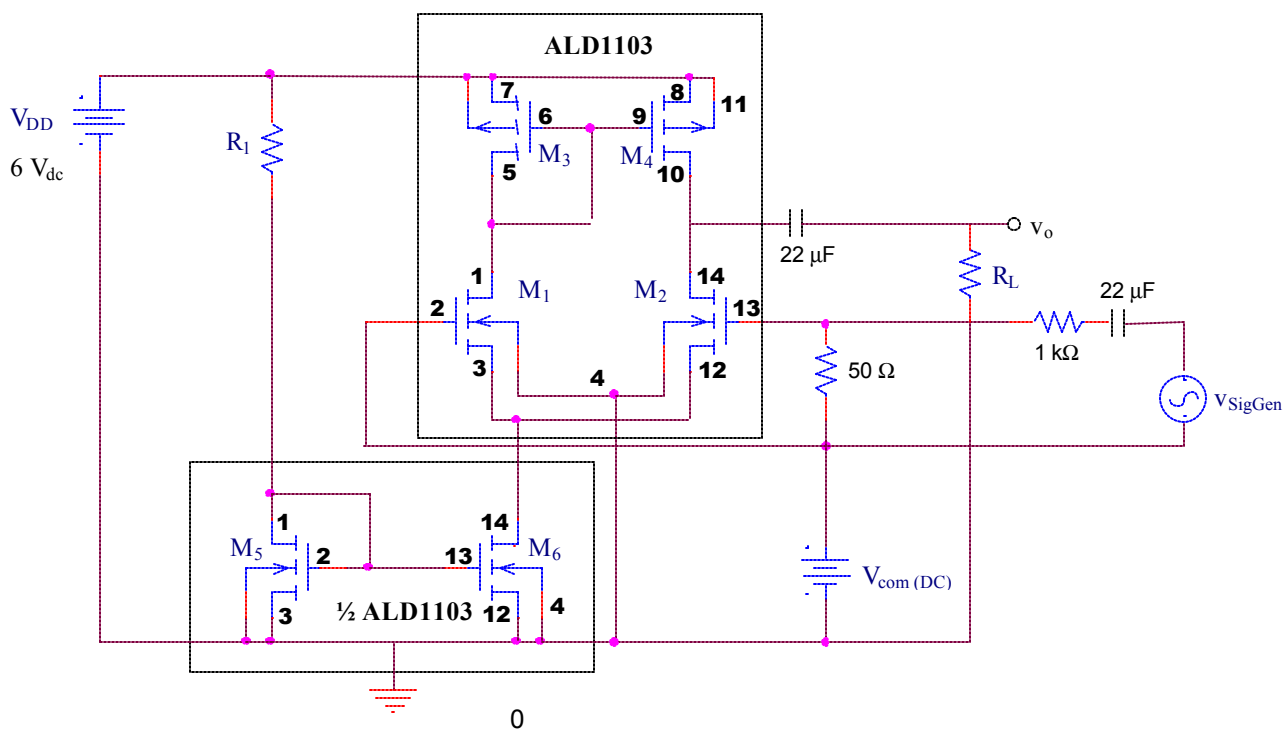
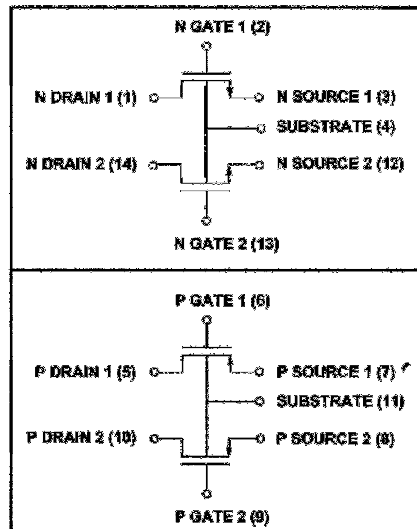

Figure 2. MOSFET Actively Loaded Differential Amplifier with Scaled Signal Generator Differential Input
Figure 3. ALD1103 Pin-Out and Specifications
Using two ALD1103 packages, build the circuit in Figure 2. The pin diagram for the ALD1103 is shown in Figure 3. **Note that all NMOS body connections (pin 4) go to the lowest supply (ground, in this case).** Since we are using a separate chip for M_1 / M_2 than we are for M_5 / M_6 , we *could* eliminate body effect in M_1 and M_2 by connecting their bodies directly to their sources. However, that is not realistic because — in an integrated circuit — all the NMOS bodies are common, tied to the lowest potential in the circuit. (Also, all the PMOS substrates (bodies) are common, tied to the highest potential in the circuit.) **The substrates (pin 11) of the PMOS devices must be connected to the most positive supply voltage (V_{DD}).**
- 2) A small-signal differential input must be applied. Note that the signal generator connection in Figure 2 is superimposed on the DC common mode voltage supply V_{com} (use the power supply's +6 V output for V_{com}). The output of the signal generator has been scaled so that the input to the differential amplifier can be adjusted to about 10 mV. Set the signal generator to a sine wave of 100 Hz frequency and 200 mV amplitude. Make sure that the signal generator is in "High-Z" mode. The differential signal applied to the inputs of the differential amplifier should be verified as approximately 10 mV.
- 4) Measure the differential mode voltage gain of the amplifier in Figure 2 for an input signal of 10 mV at 100 Hz.